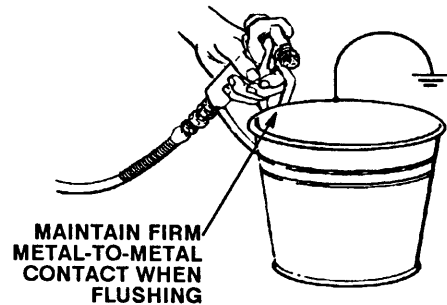

Fig 2
6. **To prime the pump**, hold a metal part of the gun firmly against a grounded metal pail. See Fig 2. Hold the trigger open, turn ON the sprayer, and slowly increase the pressure setting until the sprayer starts. Keep the gun triggered until all air is forced out of the system and the paint flows freely from the gun. Release the trigger and engage the gun safety latch.